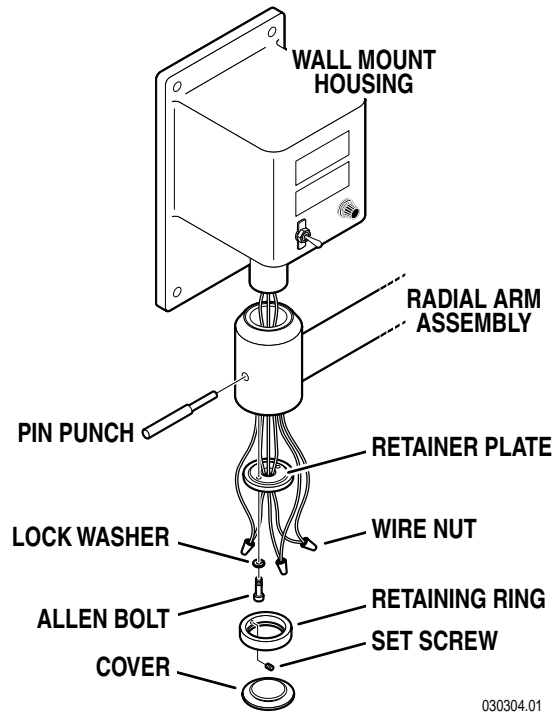

Figure 5. ST9W Radial Arm Installation
2. Remove the allen bolts, lockwashers and the retainer plate from the mounting stub. See figure 5.